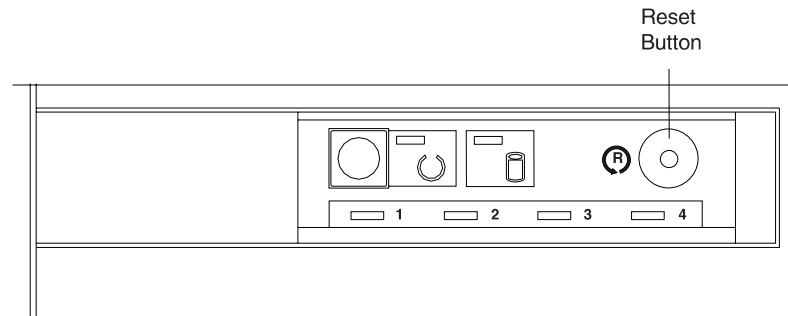

Figure 2. Location of 4693 reset button
- Press the reset (dump) button on your system as shown in Figure 2 on page 367. (The 4694 might not have a reset button.)
- Press the reset button shown in Figure 2 on page 367.